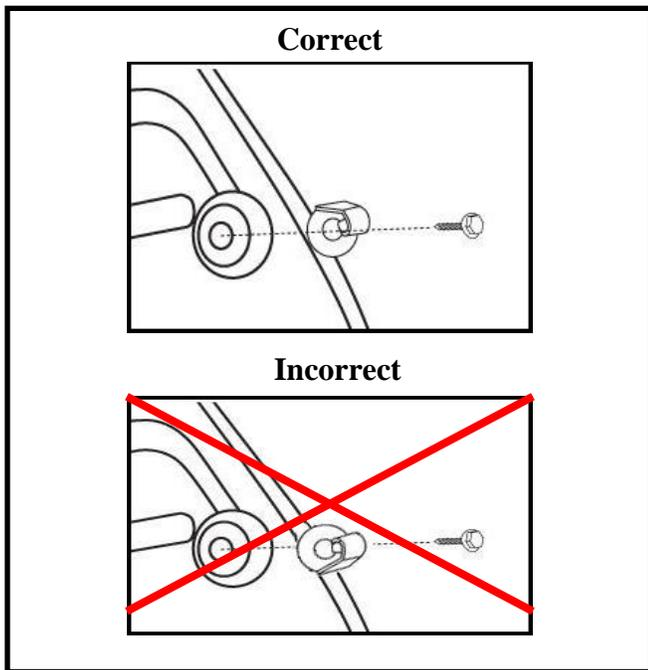

Fig. 1-3
- (e) Tighten with a #2 Phillips screwdriver (Fig. 1-3).